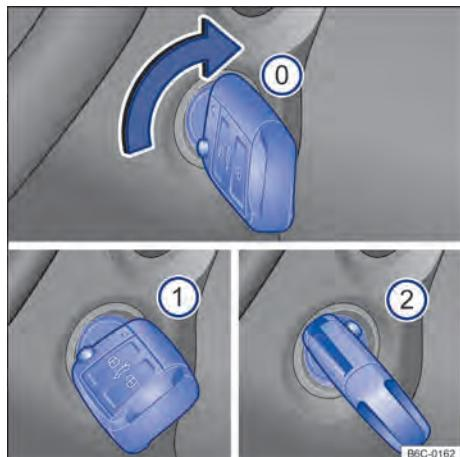

Fig. 81 Next to the steering wheel, to the right: vehicle key positions on the ignition cylinder.
Positions of the key in the vehicle → Fig. 81
- *Vehicles with heated start:* turn the vehicle key to position → Fig. 81 ①. Ignition switched on. The warm starting system's indicator lamp  will then light up on the instrument cluster. Wait until the indicator lamp  is disabled, indicating the end of the fuel warming process (this action may be required when starting cold engines).
- Turn the vehicle key in the ignition lock to position → **Fig. 81 ②** – do not accelerate. When the engine catches, release the ignition key.
- *Vehicles with heated start:* turn the vehicle key in the ignition lock to position → **Fig. 81 ②** to start the engine – do not accelerate. If step 5 is not followed, the indicator lamp  will flash, indicating the need to stop the starting procedure and repeat it after returning the key to position → **Fig. 81 ①** and waiting approximately 10 seconds.